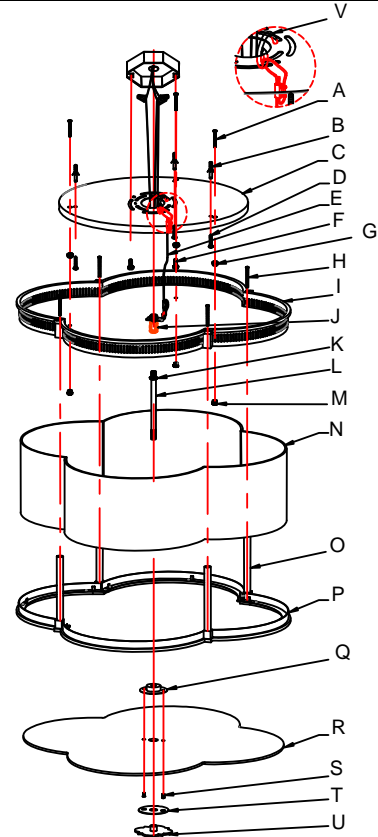

Fig.2
CONNECTING THE WIRES (Fig. 2)
8. While holding the ceiling pan towards the ceiling, connect the electrical wires as shown in (Fig.2), making sure that all wire connectors are secured. If your outlet has a ground wire (green or bare copper), connect the fixture's ground wire to it. Otherwise, connect the fixture's ground wire directly to the mounting plate (C) using the green screw provided. After wires are connected, tuck them carefully into the ceiling outlet box.